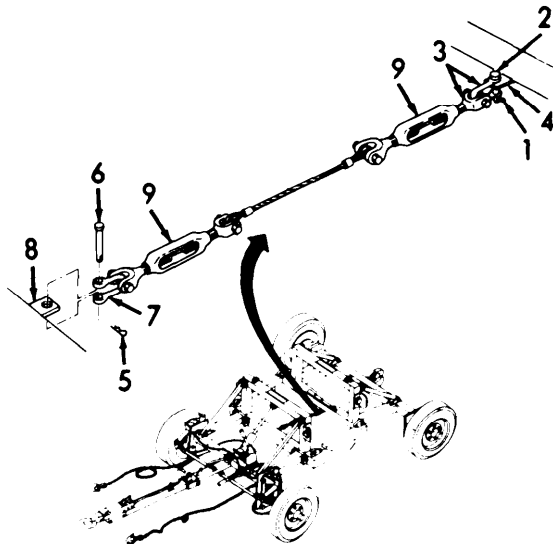

Figure 3-43. Cable, Removal.
- (1) Remove cotter pin (1, Figure 3-43) and pin (2).
- (2) Remove shackle (3) from bracket (4).
- (3) Remove cotter pin (5) and pin (6).
- (4) Remove shackle (7) from bracket (8).
- (5) Remove turnbuckle (9) with attached cable.